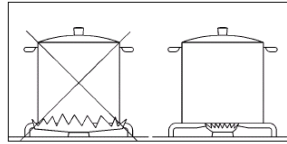

Figure 2
- Use an appropriate pan and with flat bottom for each burner (see the table below and Figure 2).